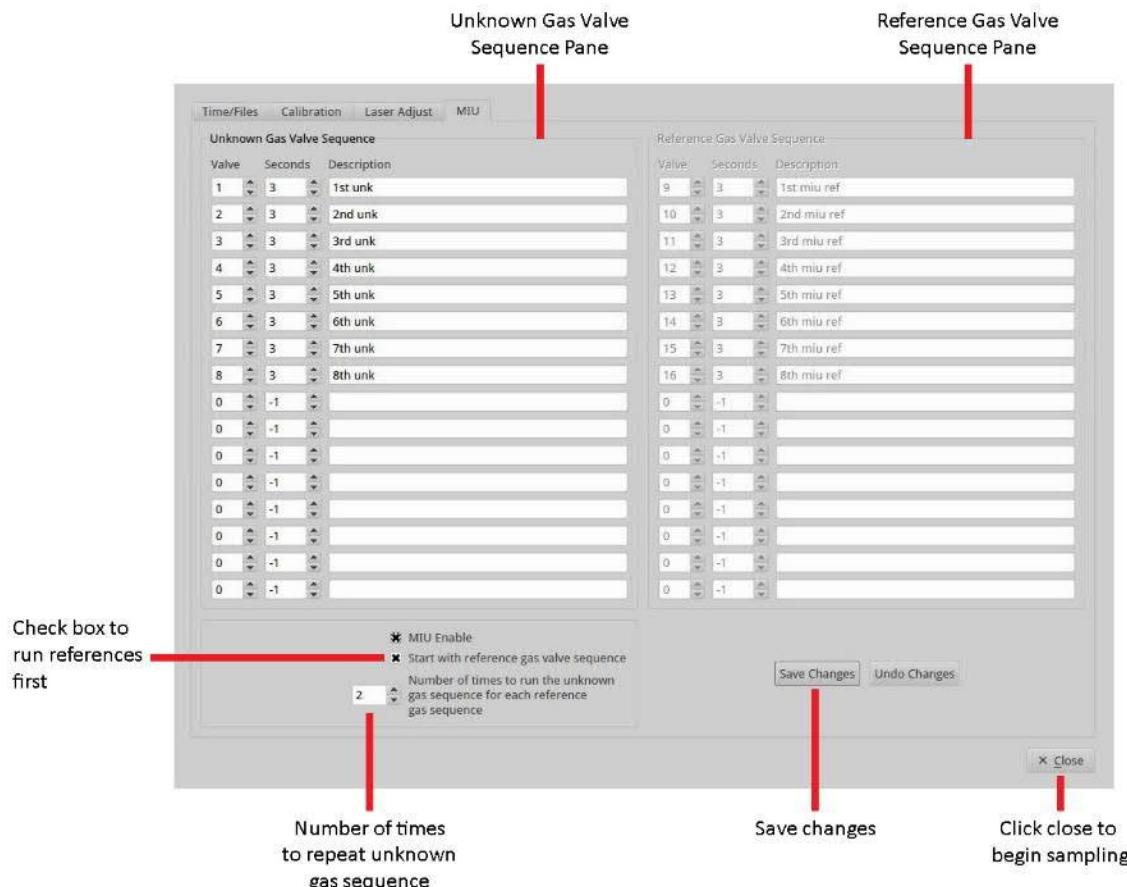

Figure 86: Gas Manifold Control Screen for the MIU, Enabled
6. Use the arrow scroll bar to select the number of times to run the unknown gas sequence for each reference gas sequence. (Figure 86)
8. To begin sampling, click Close. (Figure 86)
- When sampling is complete, disable the MIU by returning to the *MIU screen*, and uncheck the MIU Enable check box. (Figure 86)